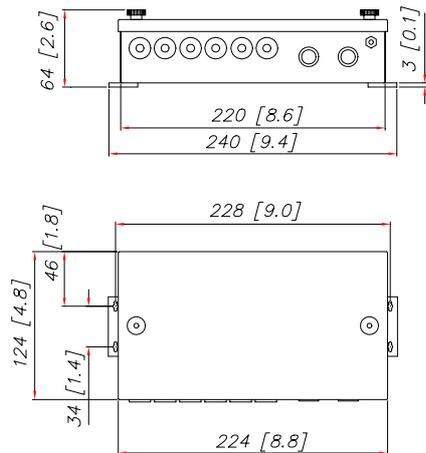

Figure 3-11 CI300X and NI300X - Dimensions
Dimensions:..... See Figure 3-11
- Dimensions: See Figure 3-11